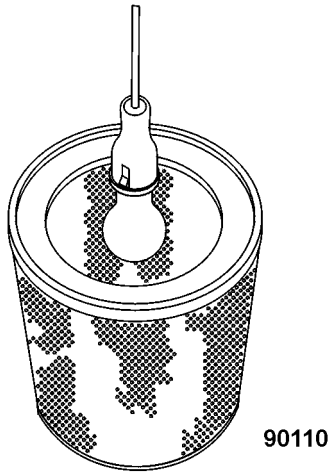

FIGURE 5-3. INSPECTING THE FILTER ELEMENT
4. After cleaning, inspect the element thoroughly for the slightest ruptures and damaged gaskets. A good method for detecting paper ruptures is to place a light inside the filter element, as shown in Figure 5-3, and inspect the outer surface of the filter element. If holes or ruptures are found, do not reuse the element. Discard and replace with a new element.
4. When cleaning is complete, inspect the filter element as shown in Figure 5-3. If holes or ruptures are noted, discard the element and replace with a new element.